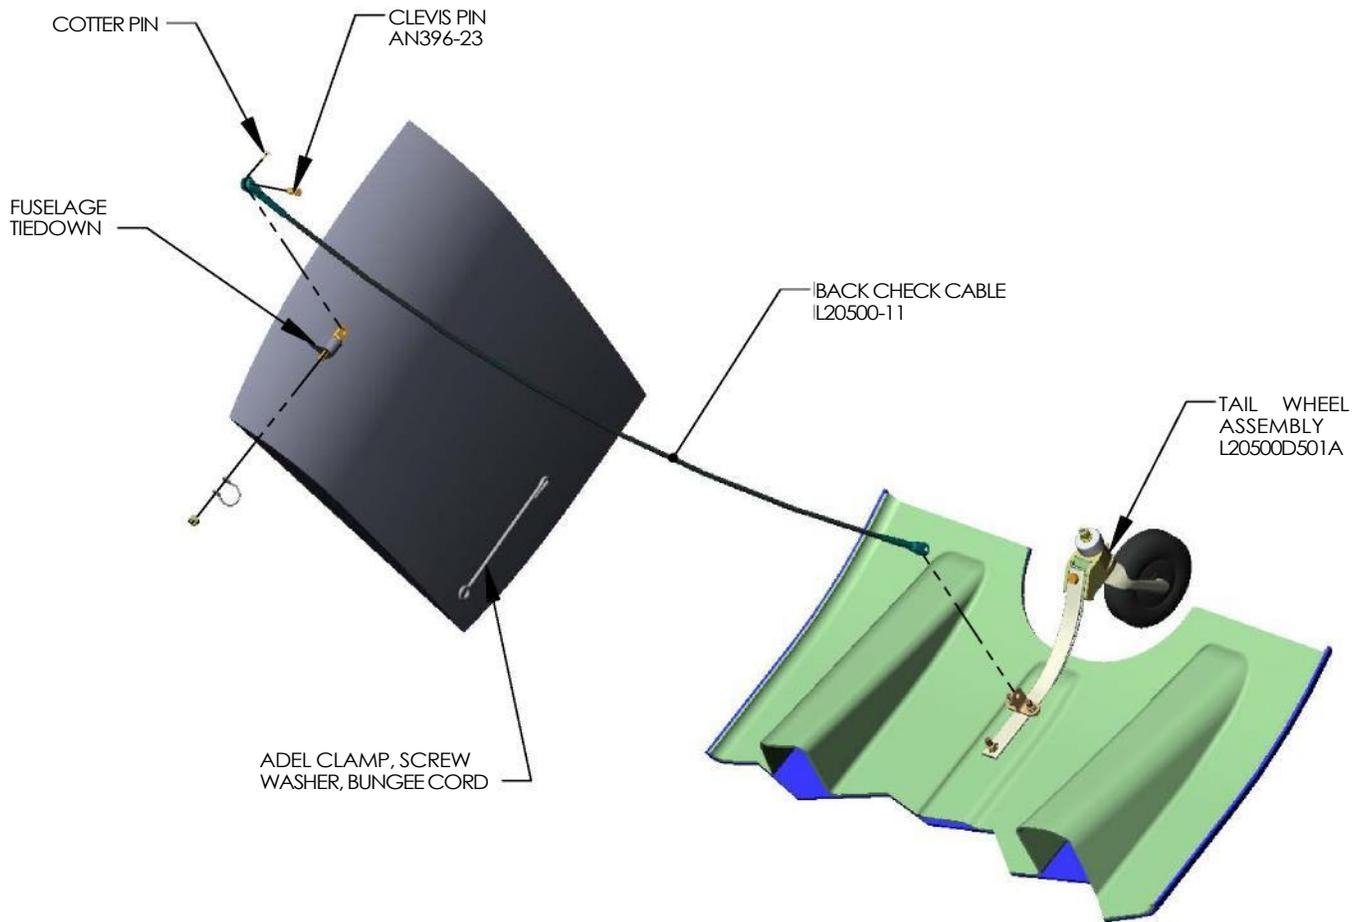

FIGURE 4
- h. Temporarily secure spring cylinder to sponson with safety tab holding main ski tail wheel assembly to ski and remove tail wheel assembly (Figure 4, page 7).
- i. Remove bolts, washers, nuts and rear safety tab holding main ski tail wheel assembly to ski and remove tail wheel assembly. (Figure 4, page 7).
- m. Install tail wheel assembly and rear safety cable to ski using bolts, washers, table and nuts. Ensure bolts are flush with bottom of ski (Figure 4, page 8). TORQUE NUTS TO 75 – 85 INCH-POUNTS
- q. Insert outboard ski axle into ski and thread ski axle into axle adapter (Figure 4, page 7, Detail B).
- v. Remove center screw and washer from ESSS access door on support fairing at STA 303.4. Install Adel clamp and bungee cord on safety cable to access door using screw and washer (Figure 4, page 7).
- hh. Remove bolts, washers and nuts from ski axles (Figure 4, page 7, Detail B).
- oo. Reinstall tail wheel assembly on ski using bolts, washers and nuts (Figure 4, page 7, Detail B).